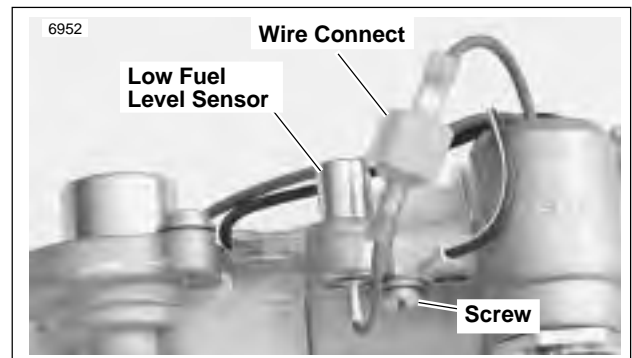

Figure 4-92. Low Fuel Level Sensor
2. See Figure 4-92. Pull apart the wire connect.